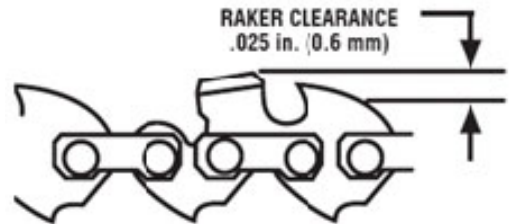

Figure 28
**Note:** Every time the Chain is filed, check the Depth Gauge clearance with a Depth Gauge Jointer. The depth gauge should be maintained at a clearance of .025 in. (0.6 mm) (**Figure 28**). Depth Gauge Jointers are available in .020 in. to .035 in. (0.5 mm to 0.9 mm). Use a .025 in. (0.6 mm) Depth Gauge Jointer.